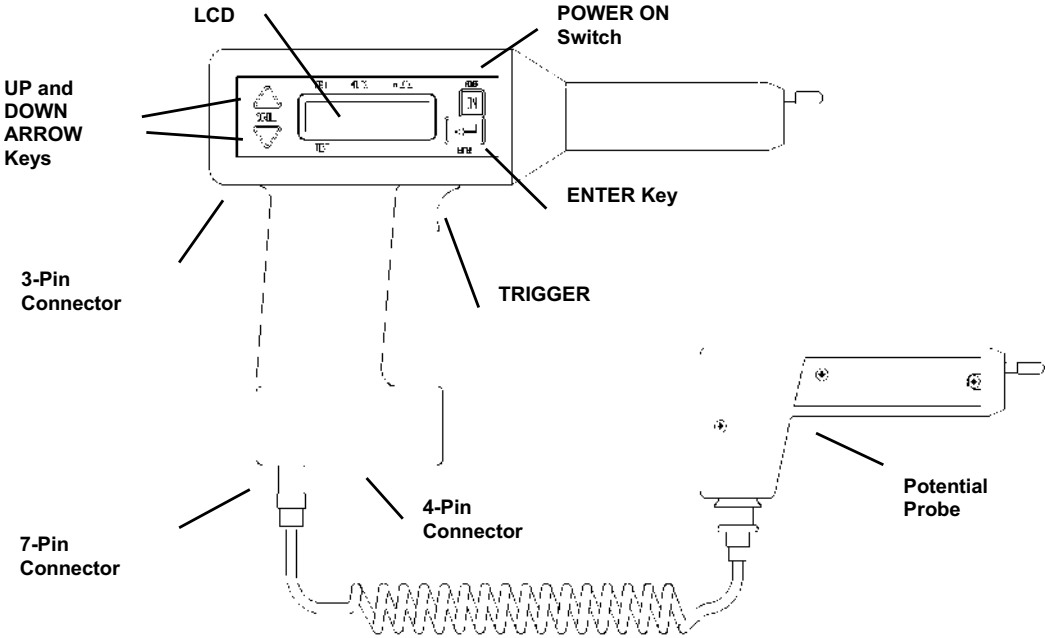

Figure 5-4: Receiver controls, connectors, and indicators
- 2. Connect the plug of the CT to the 4-pin connector on the receiver. Figure 5-4 shows the location of the 4-pin connector.